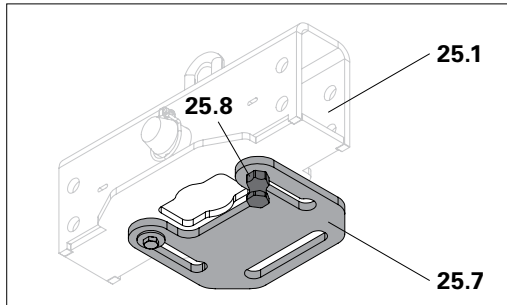

Fig. B5.01
2. Pull the cotter pin 4/1 (124) and fitting pin 21x120 (123).
3. Fly out the Main Beam and place next to the Lifting and Lowering Cylinder (2).
5. Loosen the threaded bolts (25.8), pull out the Slide Plate (25.7) and secure with threaded bolts (25.8). (Fig. B5.01)